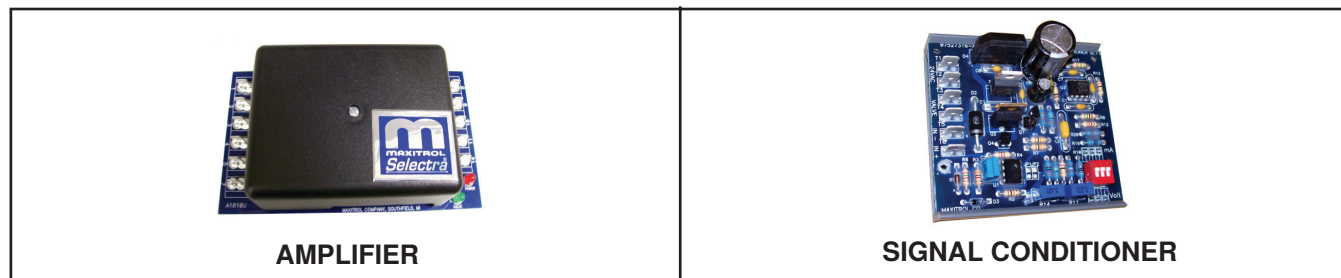
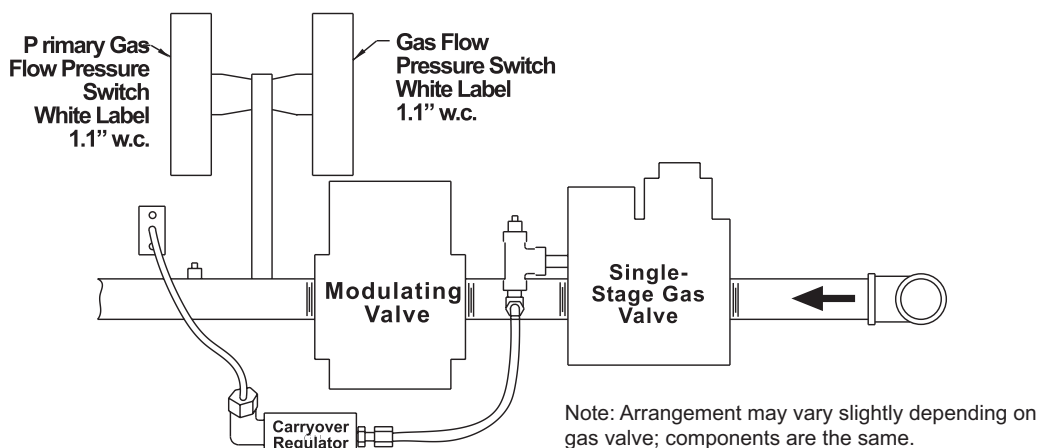

Figure 14. Maxitrol Amplifier and Signal Conditioner
Figure 15. Options AG39, AG40, AG41, and AG42 Manifold Arrangement
- Electronic modulation for makeup air application that is controlled by a duct sensor and temperature selector (55–90°F (12.8–32.2°C)) is identified as option AG8 or AG9. The temperature selector setting for option AG8 is on the amplifier (see Figure 14). Option AG9 has a remote temperature selector. Both systems are available with an override thermostat.
- With option AG21, the furnace is equipped with a Maxitrol signal conditioner (see Figure 14) that operates much the same way as the amplifier above to control the regulator valve. The signal conditioner accepts an input signal of either 4–20 milliamps or 0–10V from a customer-supplied control device such as a computer.
- The gas train (see Figure 15) includes a single-stage gas valve, a modulating valve, and two gas pressure switches. The burner rack is equipped with one flash carryover and a regulated gas lighter tube system. The carryover lighter tube receives its gas supply through the regulator simultaneously with the gas to the burner. Control of the system is through a Maxitrol amplifier (see Figure 14) with a corresponding remote temperature dial.
- With option AG40 or AG42, the furnace is equipped with a Maxitrol signal conditioner (see Figure 14) that receives an input signal of either 4–20 milliamps or 0–10V from a customer-supplied control device such as a computer.